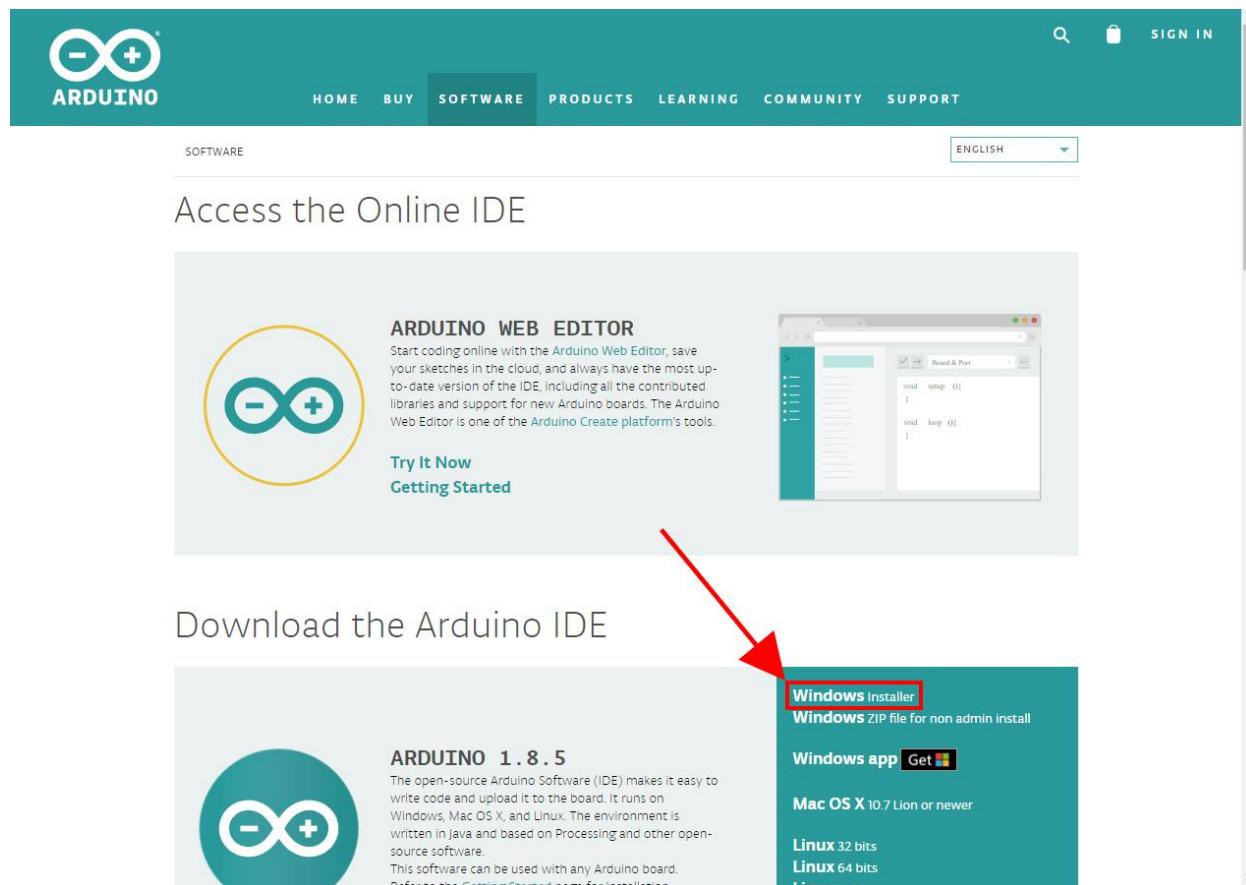

Figure 6-1 – Arduino IDE download page
1. Download and install the Arduino IDE using default settings. Refer to Figure 6-1 for visual assistance on what file to download.